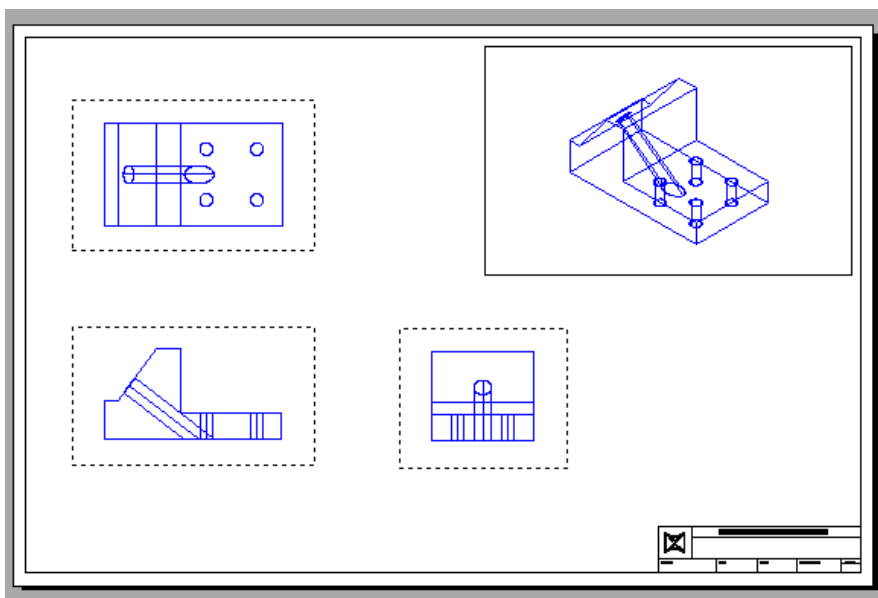

Figure Step 14A
Step 14 Enter the SOLDDRAW command, as shown below, to change the multiviewports to 2D. (Figure Step 14A and 14B)